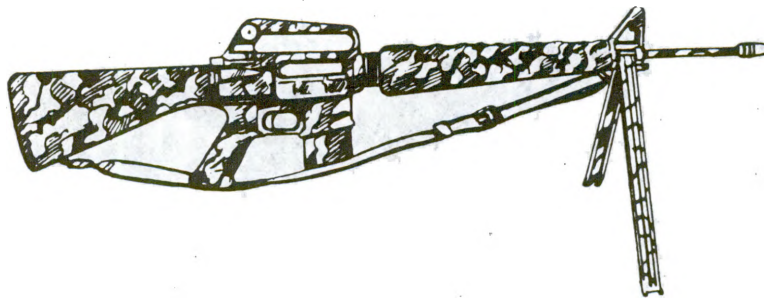

Figure 4
4. To camouflage your weapon (fig. 4):